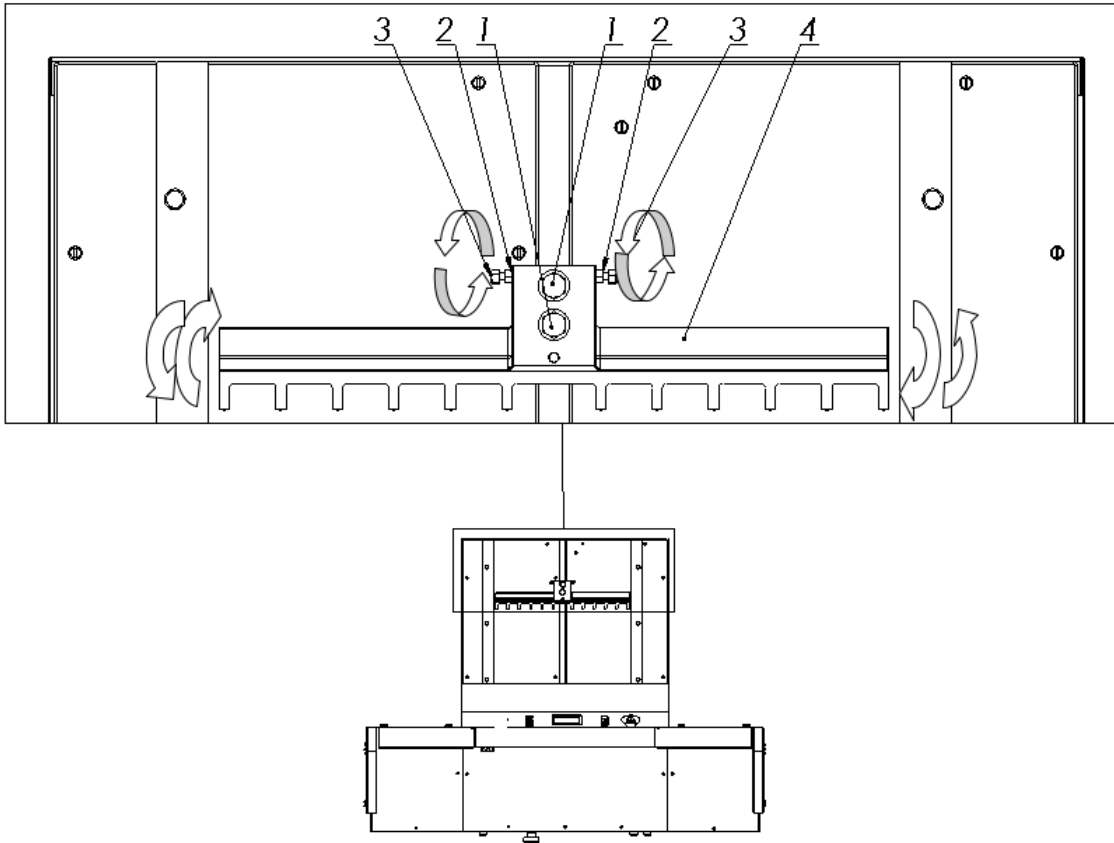

Figure 41 Adjusting elements of backgauge
8.4.3 loosen the screws 1 (fig.41)
8.4.4 loosen the nuts 2 (fig.41)
8.4.5 by turning the screws 3, place the backguage 4 (Fig. 41) at the right angle
8.4.6 lock the adjustment screws with 3 nuts 2 (fig.41)
8.4.7 firmly tighten the screws 1 (fig.41)